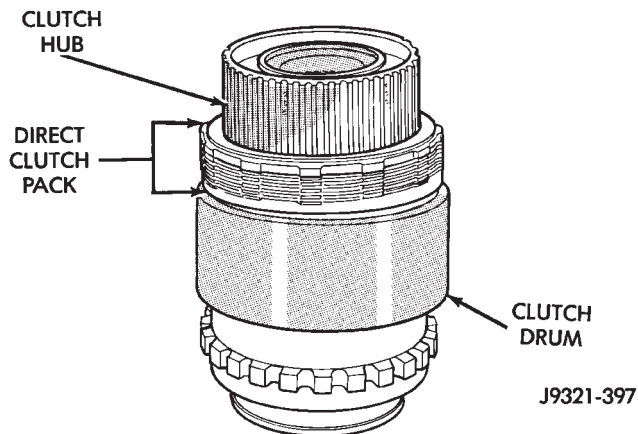

Fig. 52 Installing Direct Clutch Pack And Clutch Hub
(20) Install clutch hub and clutch pack on direct clutch spring (Fig. 52). **Be sure hub is started on sun gear splines before proceeding.**